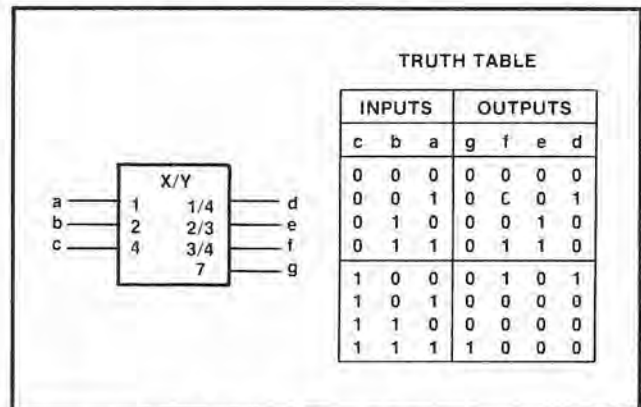

Figure 8-27. An X-Y Code Converter
- a. Labeling each output with a list of numbers representing those internal values that lead to the internal 1 state of that output. These numbers shall be separated by solidi (slant:/) as in Figure 8-27. This labeling may also be applied when Y is replaced by a letter denoting a type of dependency (see paragraphs 8-134 and 8-135). If a continuous range of internal values produces the internal 1 state of an output, this can be indicated by two numbers that are inclusively the beginning and the end of the range, with these two numbers separated by three dots, e.g., 4...9 = 4/5/6/7/8/9, or by;